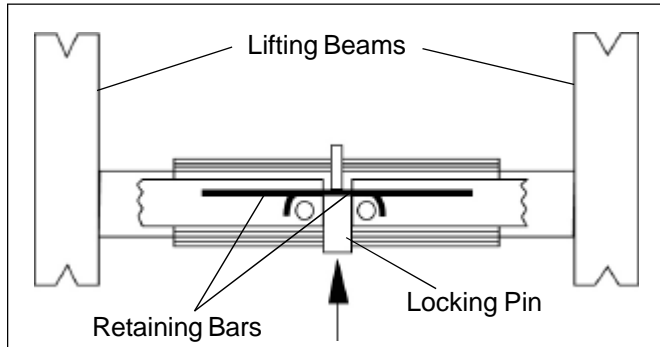

Figure 4.
5. To adjust the location of the lifting beams, push the locking pin upward from underneath and pull out the lifting beams. (see Figure 4)